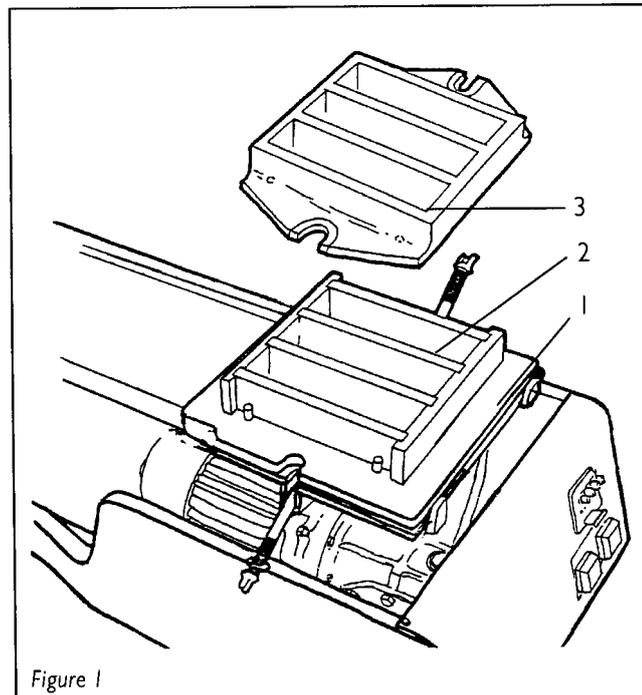

Figure 1
4.1 Attaching the mould and hopper, figures 1 and 2.